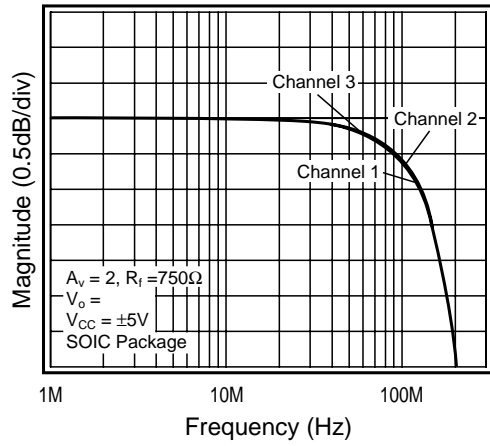

FIGURE 8. Channel Matching Performance
*Figure 8* illustrates the channel matching performance of the surface mount version of the CLC5623. Once again, the surface mount package performs better. If optimum performance is desired, use the surface mount version of the CLC5623.